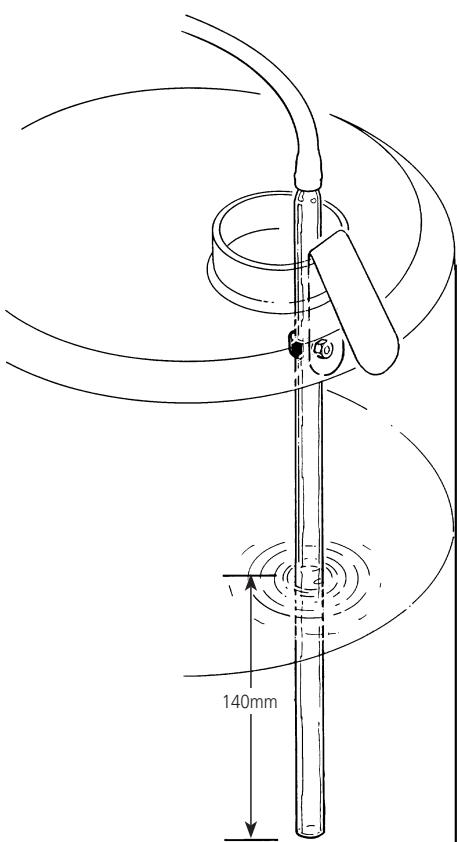

Fig 4b
- Use the metal clip to fit the glass pressure bell inside the distillate collection reservoir. Refer to fig. 4b.